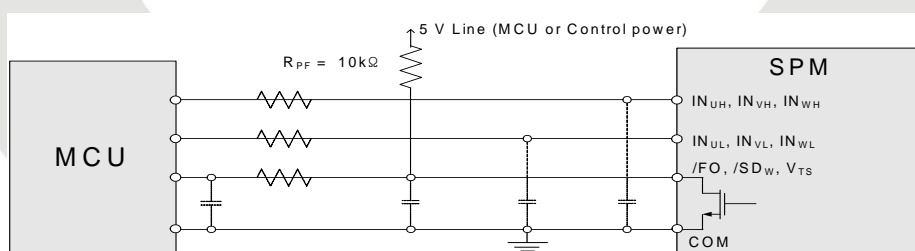

Figure 16. Recommended MCU I/O Interface Circuit
12. /FO is open-drain type. This signal line should be pulled up to the positive side of the MCU or control power supply with a resistor that makes I_{FO} up to 1 mA. Please refer to Figure 16.